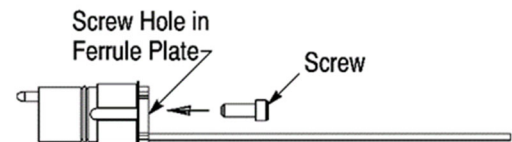

Figure 11
2. Align the end of the ferrule assembly with the appropriate channel cavity of the EB insert, and insert the ferrule assembly into the channel cavity until the O-ring is against the channel cavity. See Figure 11, Detail A. To avoid damage to the fiber, **DO NOT** push on the fiber to install the ferrule assembly.
3. Slide the spring over the fiber until it is against the O-ring of the ferrule assembly. See Figure 11, Detail B.
4. Using the ferrule insertion tool, **push on the spring** until the ferrule assembly bottoms in the channel cavity (the spring will protrude slightly from the cavity). See Figure 11, Detail C.
5. Align the index pin hole of the ferrule plate with the index pin at the back of the EB insert, and slip the fiber into the closest slotted hole in the ferrule plate. See Figure 11, Detail D.
6. Hold the ferrule plate against the EB insert, making sure that the index pin enters the index hole. Thread the screw through the hole in the ferrule plate and into the hole in the EB insert. See Figure 11, Detail E. Using the 2-mm hex wrench and torque wrench or torque stand, tighten the screw to a torque between 0.8 and 1 N·m. Check to make sure that the ferrule plate is now flush with the EB insert.
- Added ferrule insertion tool illustration to Figure 11, Detail B